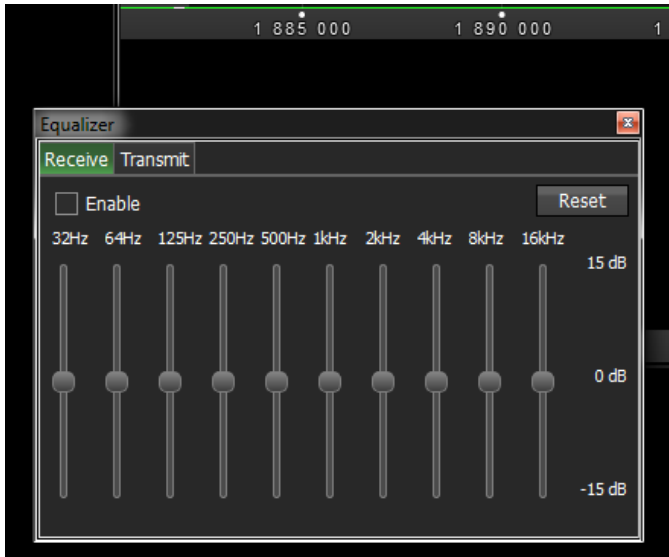

Figure 8.11 – Equalizer parameters settings window
- In transceiver there is equalizer, activated by «EQ» button. It has separate settings for receiving mode (Receive) and separate settings for transmitting mode (Transmit). (view Figure 8.11)